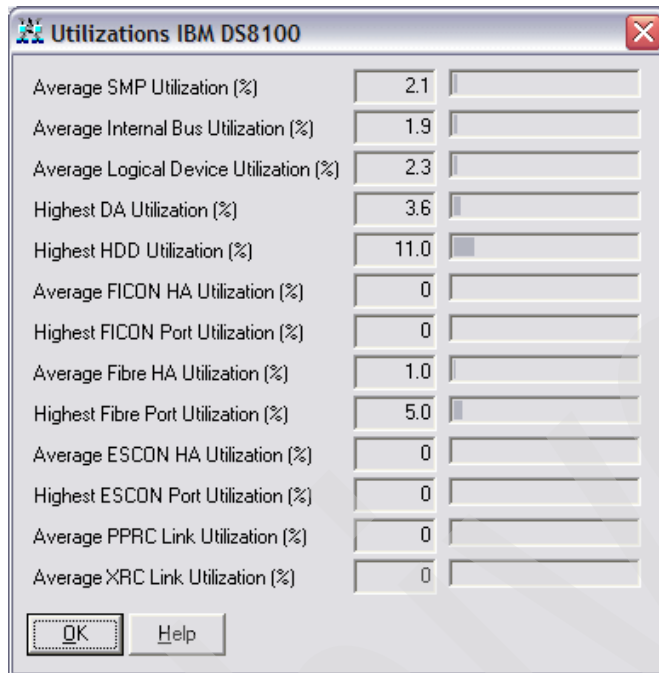

Figure 4-88 Modeled utilizations
- k. On the iSeries Workload tab, click **Utilizations**. Notice the modeled utilization of HDDs, DS FC ports, LUNs, and so on, as shown in Figure 4-88. In our example, the modeled utilizations are rather low so the customer can grow the workload to a certain extent without needing additional hardware in the DS system.